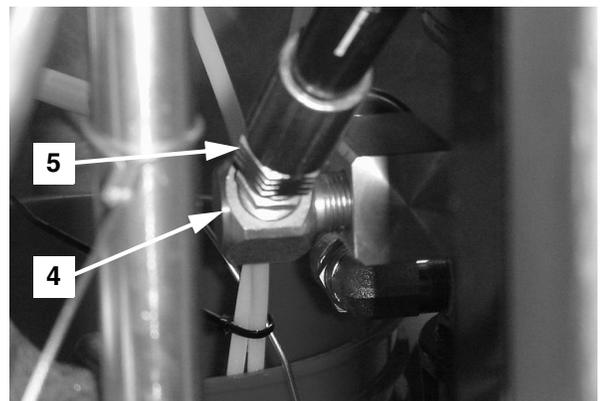

FIG. 11
11. Install elbow (4) and nipple (5) into heater outlet. FIG. 11.